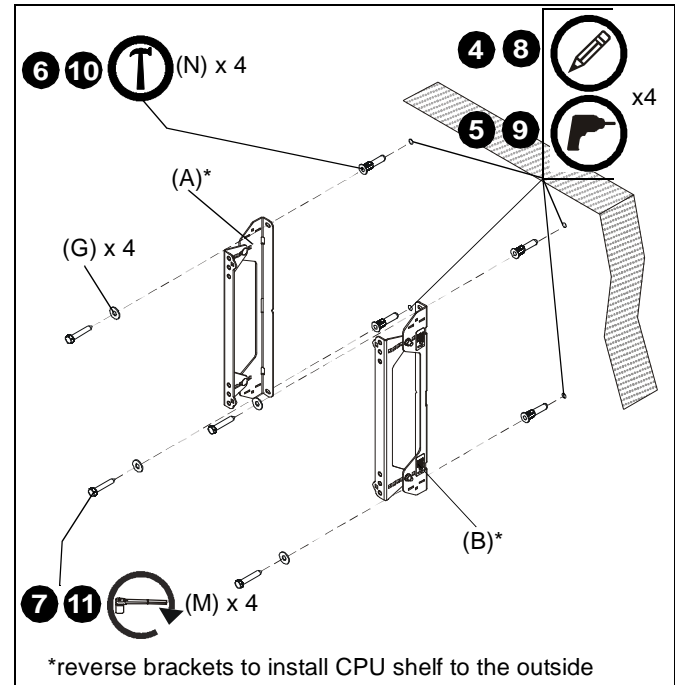

Figure 3
4. Using a level, mark the wall through both upper mounting slots. (See Figure 3)
5. Drill one 3/8" (9.5mm) pilot hole with a depth of 3 1/2" (88.9mm) at each marking. (See Figure 3)
6. Install a UX10 anchor (N) into each pilot hole using a hammer, making sure that the anchor is flush with the wall. (See Figure 3)
NOTE: If desired CPU location is off to the side of the display, reverse brackets (A and B) from how they are shown in Figure 3.
7. Use two 5/16 x 2-1/2" lag bolts (M) and two 5/16" flat washers (G) to attach top of brackets (A and B) to anchors in wall. (See Figure 3)
8. Mark the attachment points for the lower mounting slots. (See Figure 3)
9. Drill one 3/8" (9.5mm) pilot hole with a depth of 3 1/2" (88.9mm) for each mounting hole. (See Figure 3)
10. Install a UX10 anchor (N) into each pilot hole using a hammer.
11. Use two 5/16 x 2-1/2" lag bolts (M) and two 5/16" flat washers (G) to attach the brackets to the wall through the lower mounting holes. (See Figure 3)